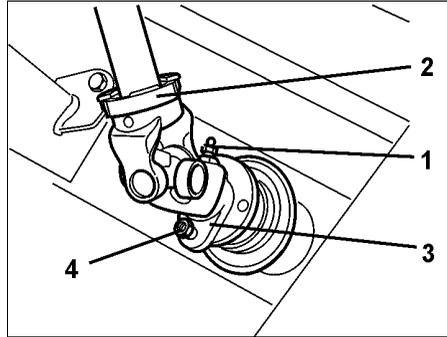

**Fig. 66**
- Open the spread rate shutter with the aid of the setting lever (Fig. 66/1).
- Swivel the setting lever on the scale (Fig. 66/2) until the stop on the pins.
- Arrest the setting lever with the star knob (Fig. 66/3).
- Slacken the hex. bolt (Fig. 66/4) Align the pointer (Fig. 66/5) with the scale figure „8“ and fix with the hex. bolt. The read-off edge of the pointer is (Fig. 66/6).